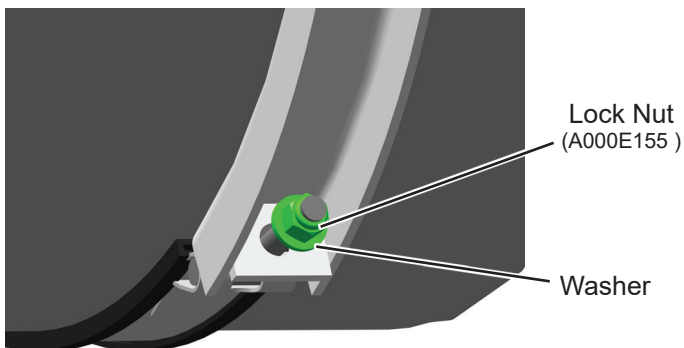

Figure 4 - Bottom Mounting Hardware
7. Reinstall tank strap bottom T-bolts into tank mounting brackets and install flat washers, removed in Step 5, and lock nuts (A000E155). See Figure 4. Install lock nuts onto T-bolts a few turns.